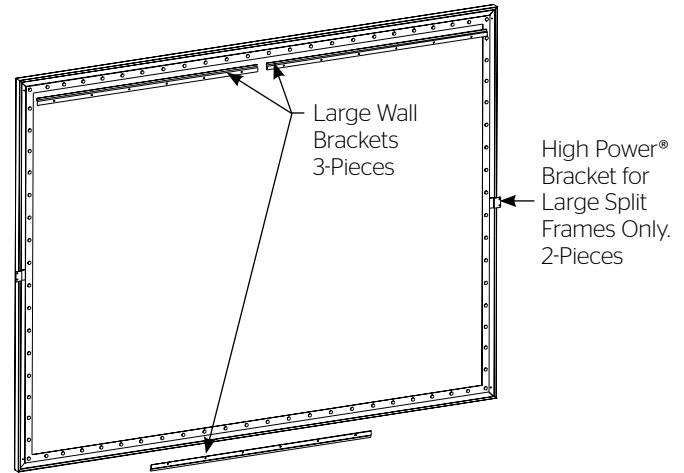

Figure 7
3. Some large screen sizes (240") are made with 2-piece side frame rails. For this type of frame you will need to attach one High Power® bracket to each side at the joint. Use the black #10 screws supplied. See Figure 7.